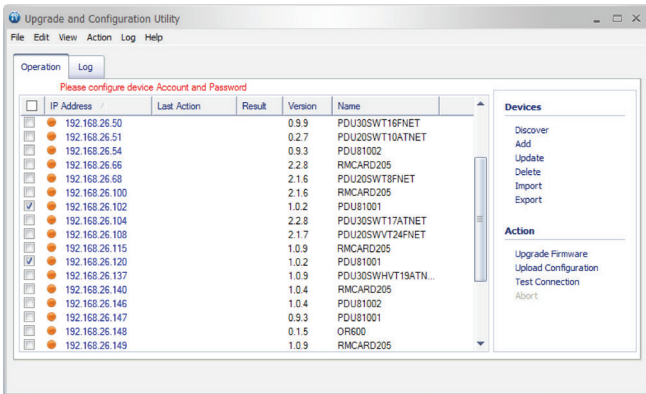

Figure 2
4. Check the checkbox to select devices listed in the **Operation View** (Figure 2).